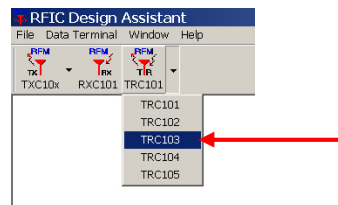
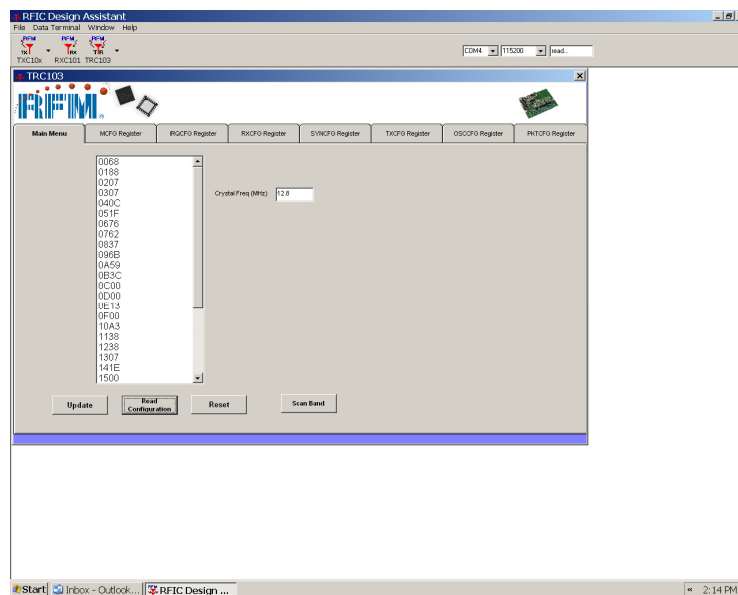

Figure 8 - Selecting TRC103 Operation
Figure 9 - Read Configuration Test
5. Select the TRC103 from the TRC drop-down menu as shown in Figure 8. This will launch the TRC103 multi-tab dialog window as shown in Figure 9
6. Select the *Main Menu* tab and click on the *Read Configuration* button. A hex dump of the current TRC103 configuration parameters should appear in the text box above the button as shown in Figure 9. This confirms the development board set is communicating with the utility program. Test the other development kit board set in the same manner. The development kit is now ready to use.